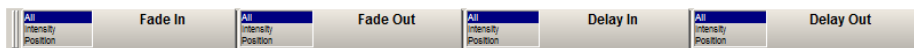

Figure 20.4. The Wheels Toolbar showing Timing
3. The Wheels Toolbar will show the available timing types (Fade In, Fade Out, Delay In and Delay Out) together with their current settings; see *Figure 20.4, “The Wheels Toolbar showing Timing”*.